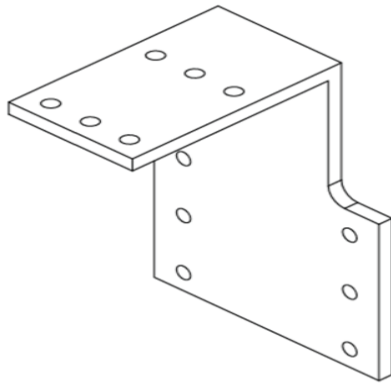

Figure 3: B-clip Mullion Clip
10. Preload B-clip to vertical SP-040 at header (see fig. 3).